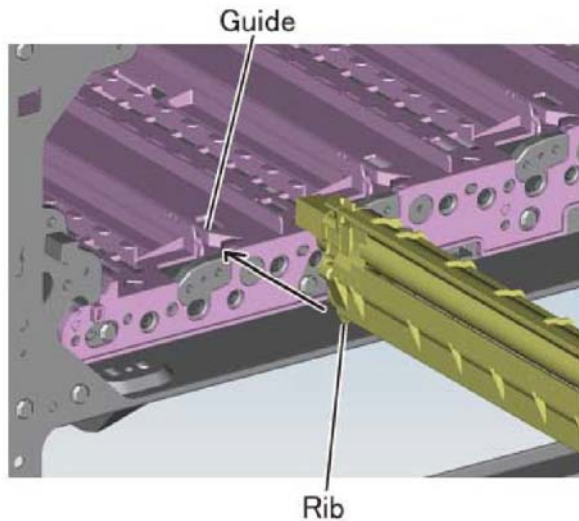

Figure 13 Alignment
4. Install the developer unit, Figure 13.